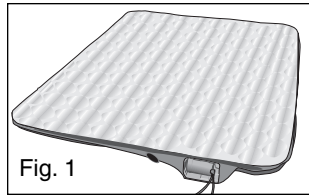

Fig. 1
2. Place your bed on the floor or other surface free of obstructions or sharp objects that may damage your product (see Figure 1).